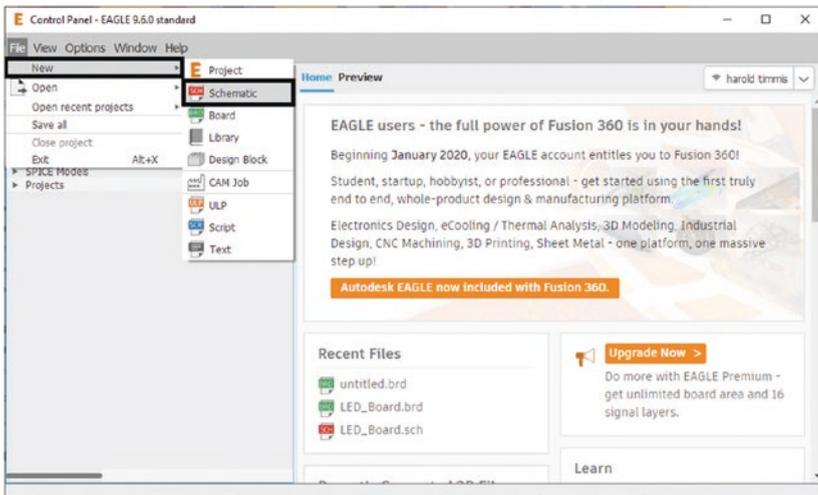

Figure 5-16. Create a new schematic
3. Select File ► New ► Schematic; this will open a schematic window. See Figure 5-16.